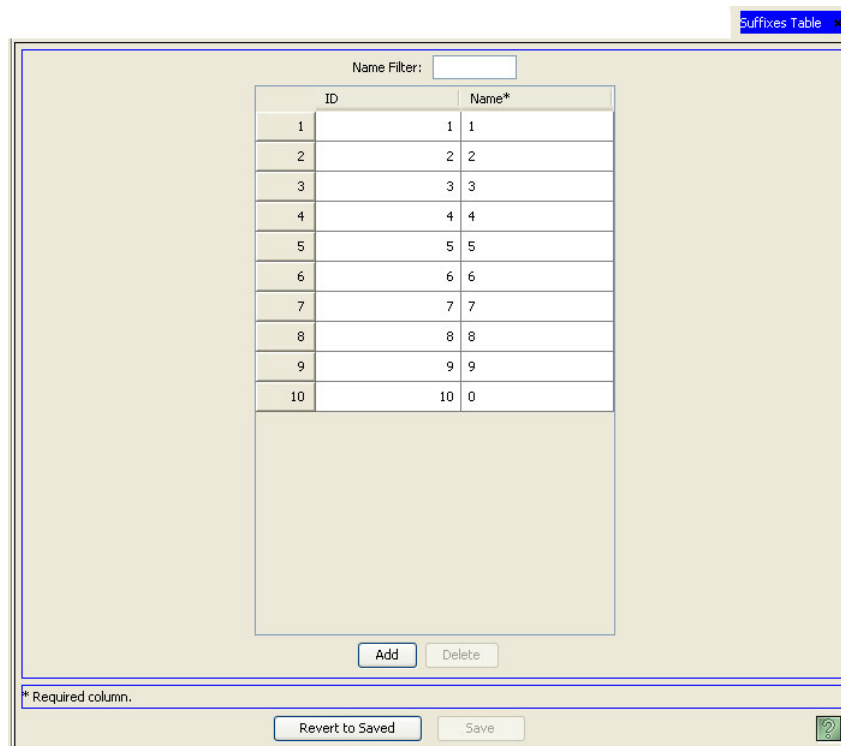

Figure 10-31. Suffixes Table
- 1 From the Navigation area, select the 'Views' pane and then 'Suffixes'. The 'Suffixes' table appears, as shown in Figure 10-31.